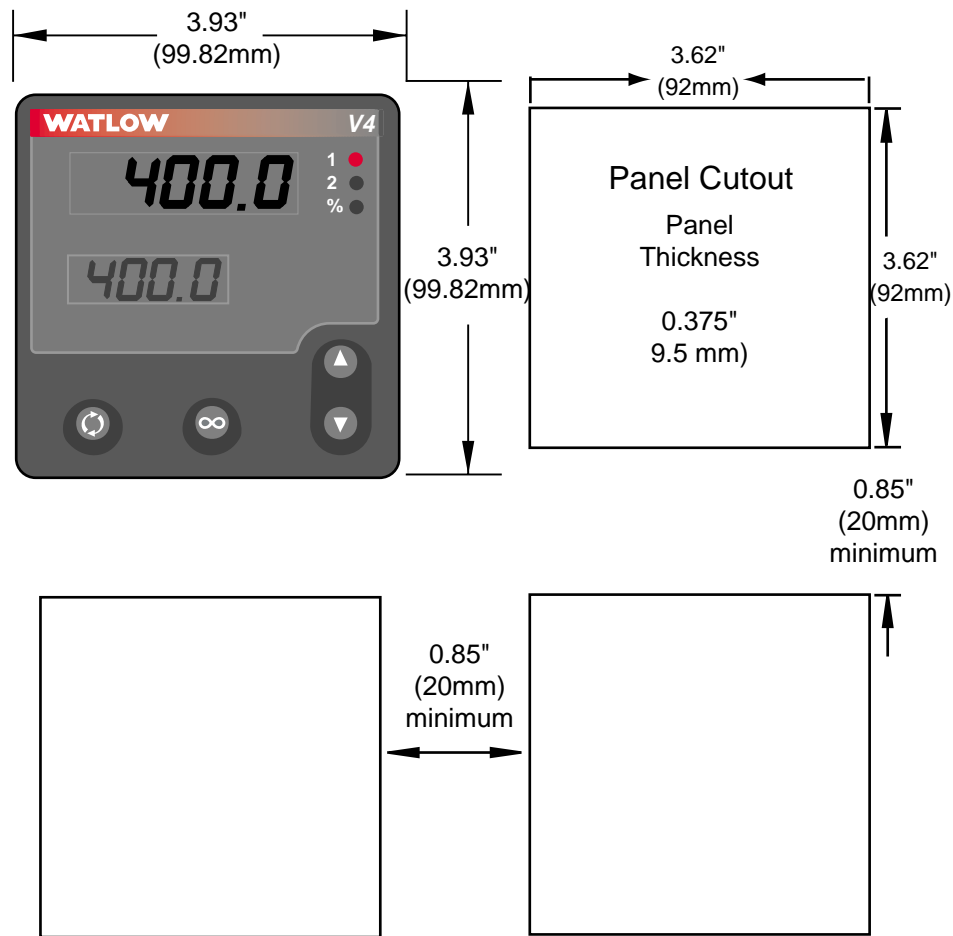

Figure 4 - Series V4 multiple panel cutout dimensions.
1. Make the panel cutout using the panel cutout dimensions as shown in Figure 4.